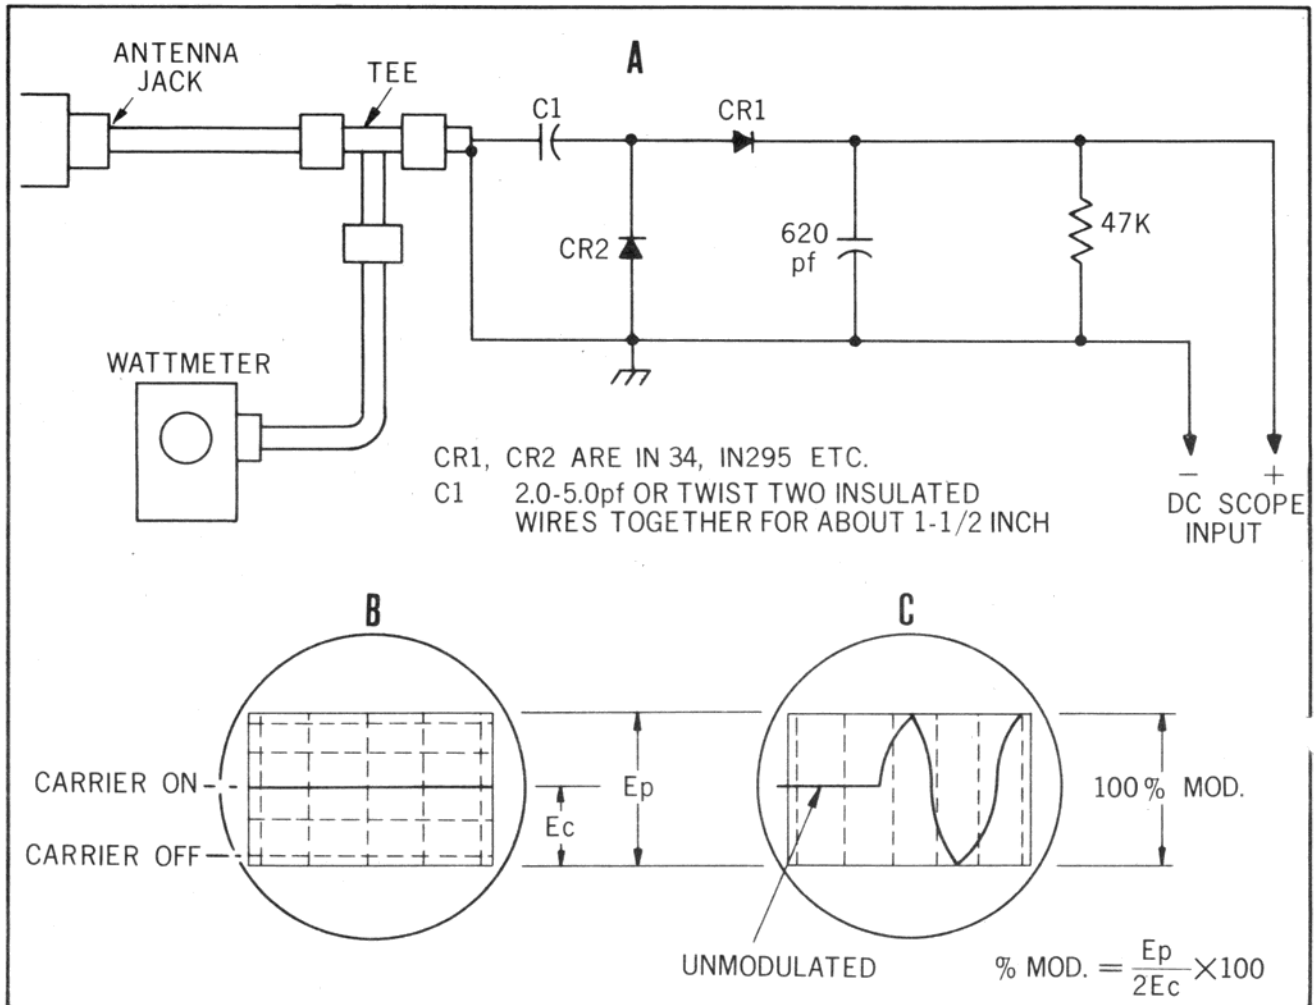

Figure 3-2 Modulation Detector
1. Connect a wattmeter and oscilloscope to the antenna jack as shown in Figure 3-2.